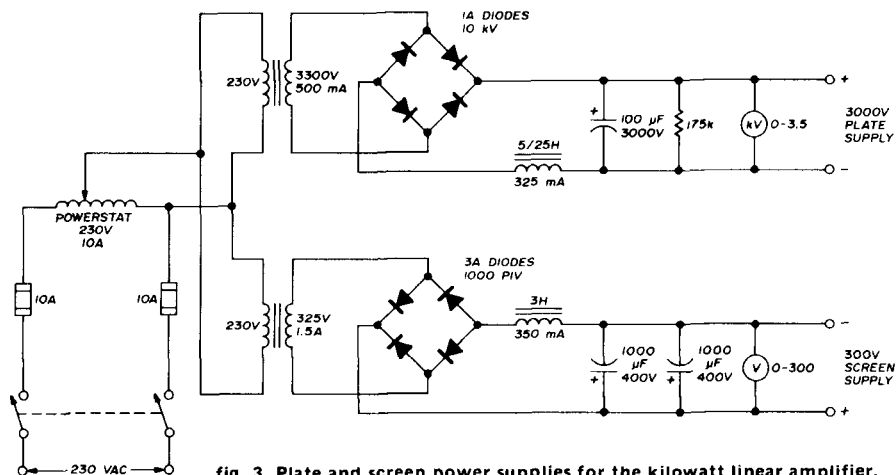

fig. 3. Plate and screen power supplies for the kilowatt linear amplifier.
fig. 1. Modified grounded-grid, grounded-screen, beam-tetrode power amplifier. Plate and screen power supplies are shown in fig. 3. Grid bias is provided by the zener diode, CR1.
A complete schematic of the plate and screen power supplies is shown in **fig. 3**. All supply voltages are brought up to full operating levels with a variable transformer (Powerstat). The large filter capacitors require a lot of current to load them to full voltage, and this procedure reduces the surge current through the silicon diodes. Another Powerstat is used with the filament transformer to reduce the thermal shock of an instant-on filament switch.
**table 1. Component values for input T-network described in fig. 3 ( $X_C = 51$  ohms,  $X_{L1} = 71$  ohms,  $X_{L2} = 69$  ohms).**